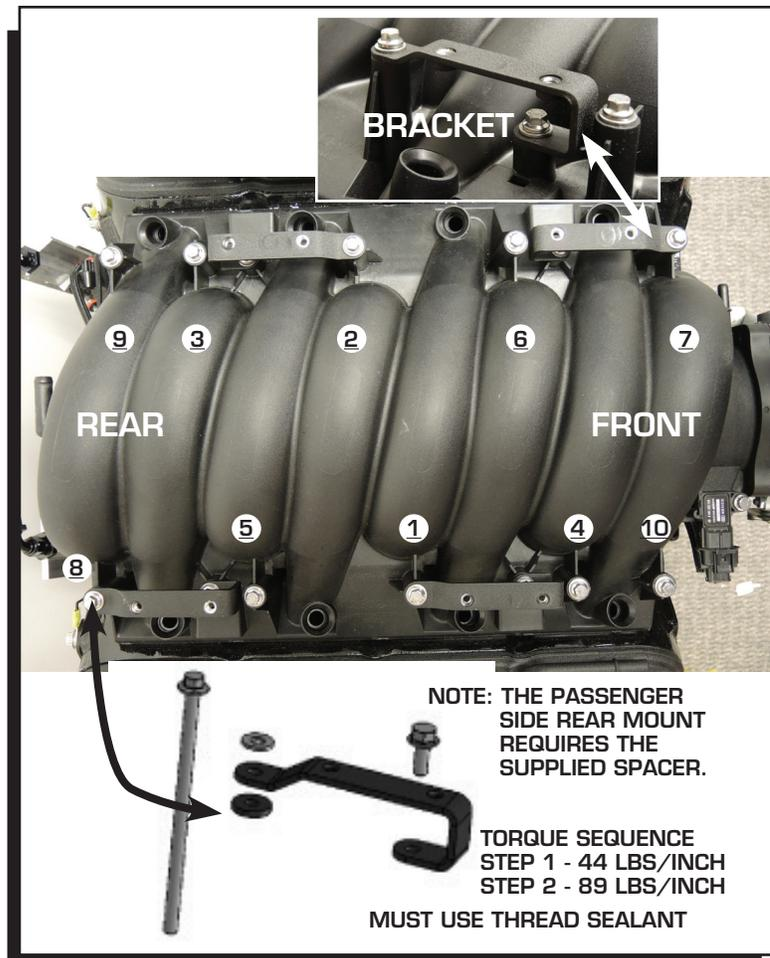

Figure 4 Fuel Rail Bracket Locations.
2. Figure 4 shows the location for the fuel rail brackets. Remove the hardware from the intake manifold and install the brackets as shown using the supplied longer intake bolts. Use GM 1245383 thread sealant or equivalent on the intake manifold bolts. Note that the passenger rear bracket requires a spacer (supplied) as shown in Figure 4. Torque the new intake bolts to 89 in-lbs.
NOTE: If installing the intake manifold for the first time follow the torque sequence in Figure 4. Torque in steps; 44 in-lbs first, followed by 89 in-lbs. It is recommended to hold a straight edge against the brackets to ensure alignment while torquing.